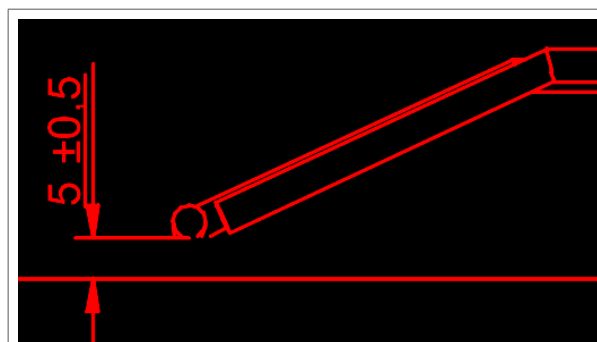

Figure 28 - Distance between the electrode and the burner
- a. The distance between the electrode and the burner should be $5.0 (\pm 0.5)$ mm (figure 28).